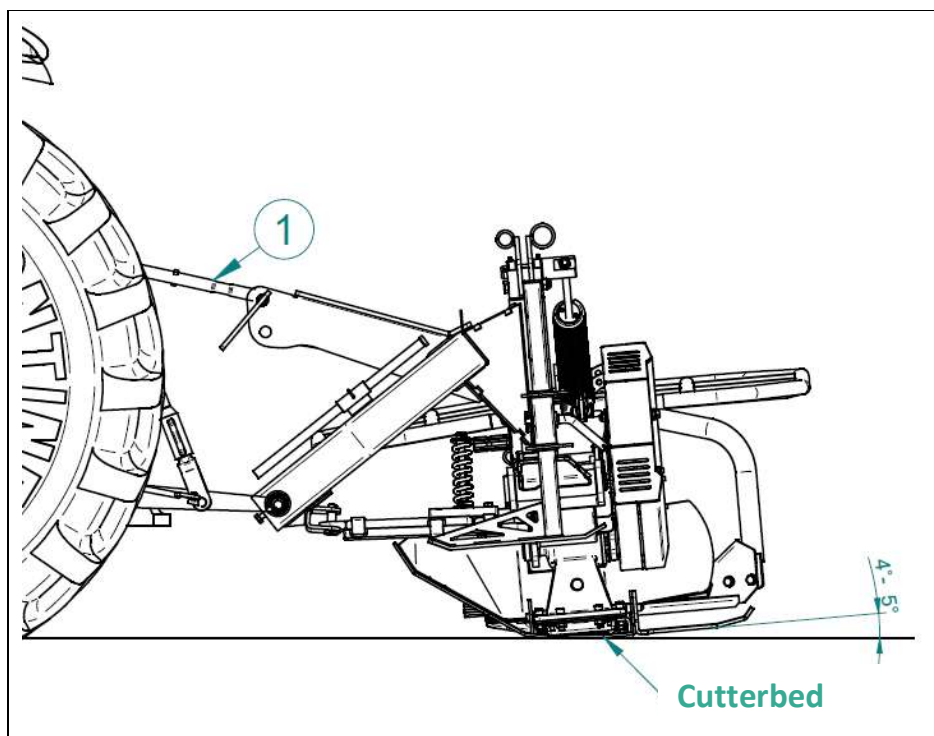

Fig. 13 Cutting height adjustment
After adjusting the suspension, adjust the height of cut by adjusting the length of the connector (1) to obtain the $4\div 5^\circ$ angle from the ground. Decreasing the angle causes increasing the height of cut, Fig. 13.